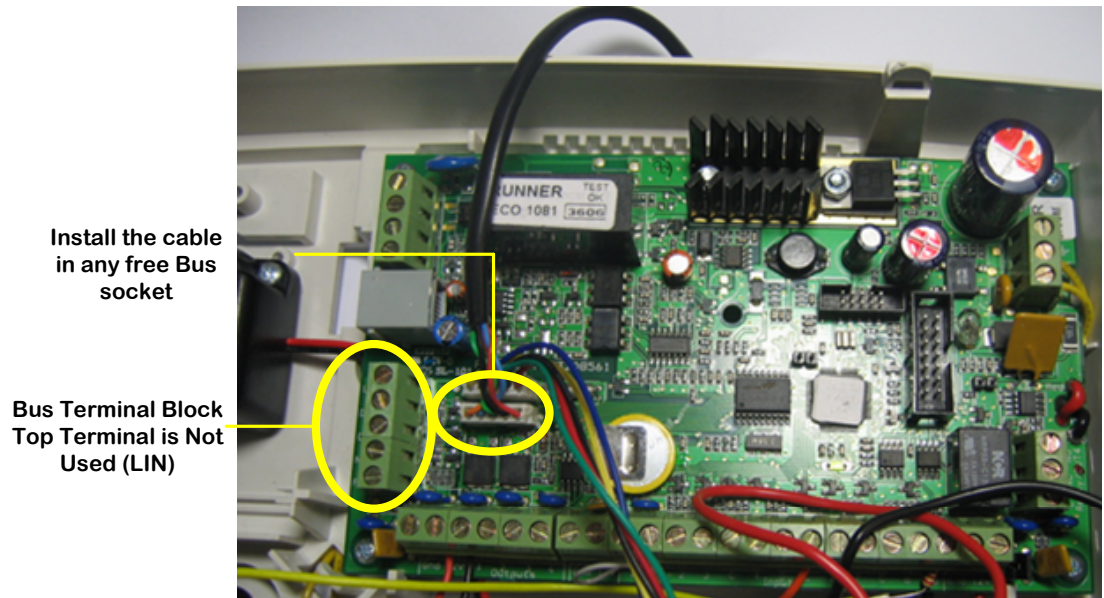
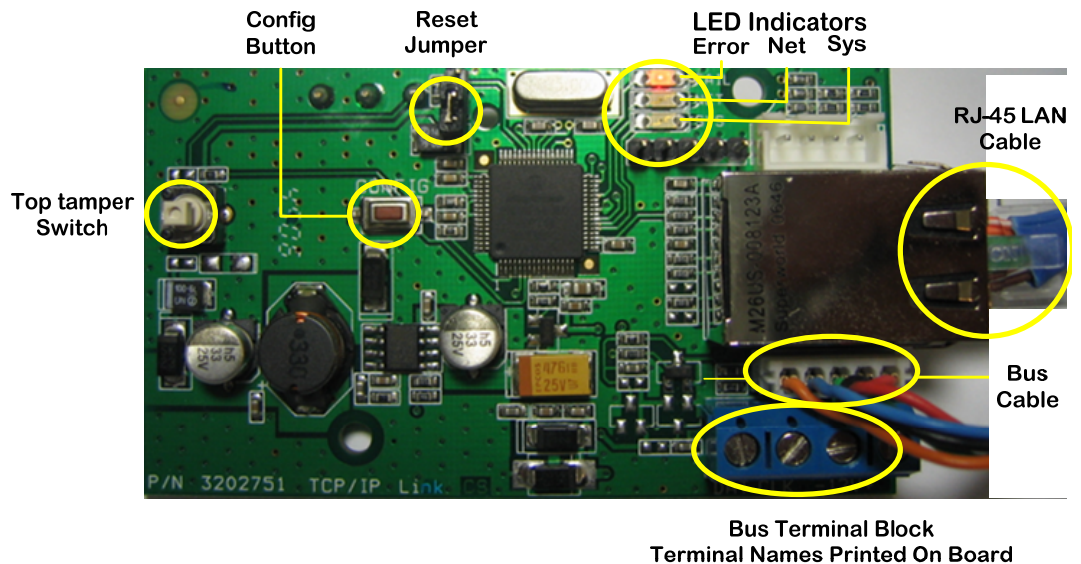

Figure 2 Main Board Bus Connection
Figure 3 Runner Link Board Connections and Locations
2. Connect the RJ-45 LAN cable to the Runner Link board as shown in Figure 2 and Figure 3.
3. Connect the other end of the Bus cable onto the board as shown in Figure 3.
You can also connect discrete wires as shown in the figure below. See also Figure 2 and Figure 3.
1. Using Figure 3 on page 6 as a guide, short the **Reset** jumper pins using the jumper installed on one of the pins.